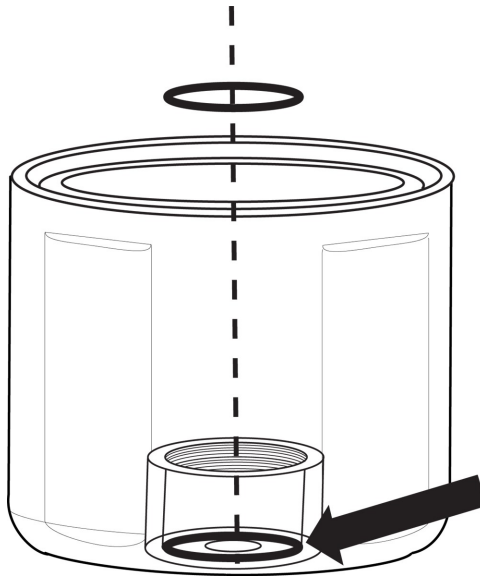

Figure 8-3. Proper O-ring placement
6. Replace the membrane and its O-ring. See Figure 8-3 (p. 12)